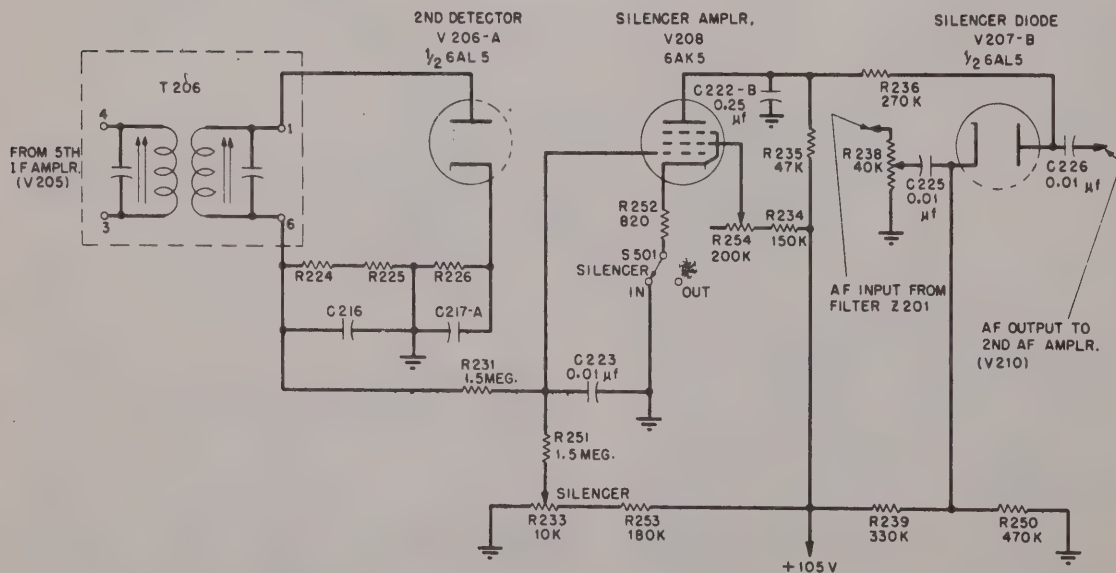

Figure 2-12. Simplified Schematic—Noise Silencer Circuit
f. SILENCER. The noise silencer (squelch) circuit is used to prevent noise from reaching the audio section of the receiver in the absence of an incoming signal of some predetermined minimum level. A controlled diode (V207B) between the first and second audio stages permits the audio signal to pass during conduction, and cuts off the audio signal when it is not conducting. The simplified schematic diagram of figure 2-12 shows the silencer circuit. Tube V207B is one half of a type 6AL5 dual diode, and tube V208, the silencer amplifier, is a d-c amplifier which controls the diode.